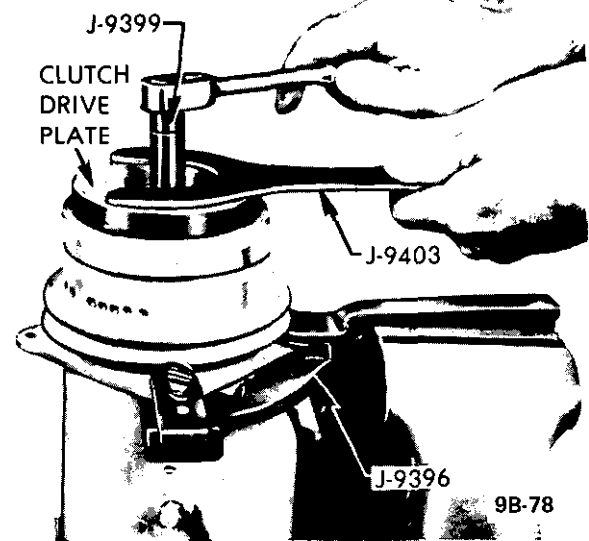

Figure 9B-104 Removing or Installing Shaft Nut
1. Firmly clamp holding fixture (J-9396) in a vise and attach compressor assembly to fixture (see Figure 9B-104).